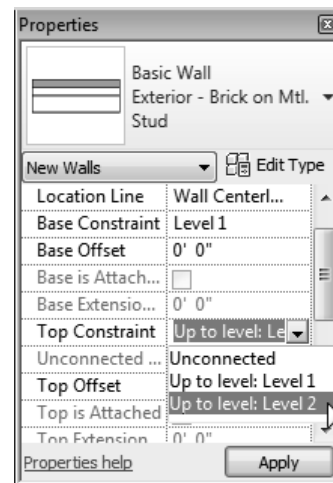

Figure 3-26 Setting the **Top Constraint** parameter using the **Properties** Palette
- d. Modify **Top Constraint- Up to level: Level 2** and **Location Line - Wall Centerline** as wall properties using the **Properties** Palette, refer to Figure 3-26.
1. In the **Properties** Palette, ensure that the **Location Line** parameter has **Wall Centerline** as the default value. Click on the column beside the **Top Constraint** instance parameter; a drop-down list is displayed. Select **Up to level: Level 2** from this drop-down list, as shown in Figure 3-26 and choose the **Apply** button.